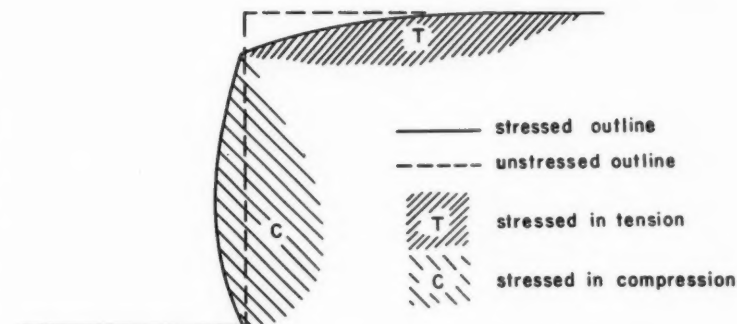

Fig. 1. Stress condition within a vertical bank
If a vertical excavation is made in an elastic solid, it is conceivable that the material near the toe of the bank is in compression and the material at the horizontal surface and removed some distance from the brow of the cut is in tension. (See Figure 1.) Any solid has limits to its strength in shear and tension, hence there is a condition when a solid, bounded by one vertical face, will fail because of its own weight when the height of the vertical face reaches what is referred to as the critical height. Signs of such a type of failure are a bulging of the material just above the toe of the bank and open tension cracks at the top surface at some distance from the brow.
Fig. 1. Photographed at 6750 diameters, these electron micrographs are of (A) diesel fuel as received, (B) gasoline as received and (C) a typical well dispersed fuel after treatment with dispersant
Figure 1 is an electron micrograph